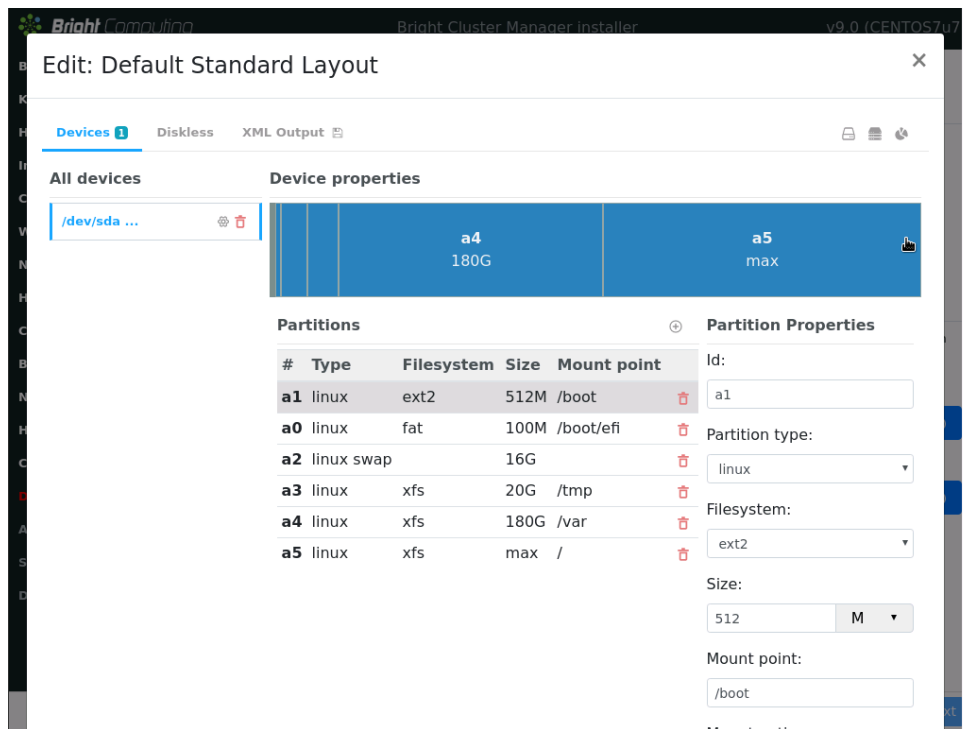

Figure 3.21: Edit Disk Partitioning
- The partitioning layout can be edited with the  icon. This brings up a screen (figure 3.21) that allows the administrator to view and change layout values within the layout's configuration XML file:
1. for a large cluster or for a cluster that is generating a lot of monitoring or burn data, the default partition layout partition size for /var may fill up with log messages because log messages are usually stored under /var/log/. If /var is in a partition of its own, as in the default head node partitioning layout presented when the hard drive is about 500GB or more, then providing a larger size of partition than the default for /var allows more logging to take place before /var is full. Modifying the value found within the `<size></size>` tags associated with that partition in the XML file modifies the size of the partition that is to be installed. This can be conveniently done from the front end shown in figure 3.21.